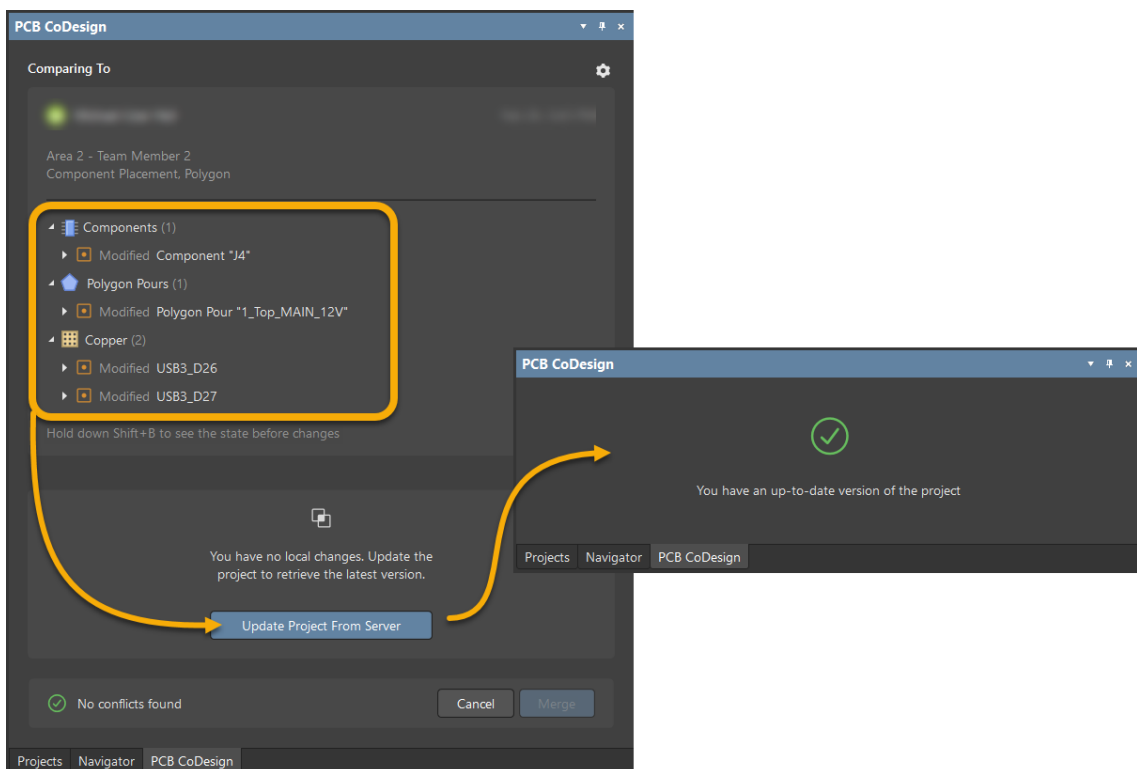

Figure 23. PCB CoDesign Update from server
56. In the *PCB CoDesign* panel, Figure 23.